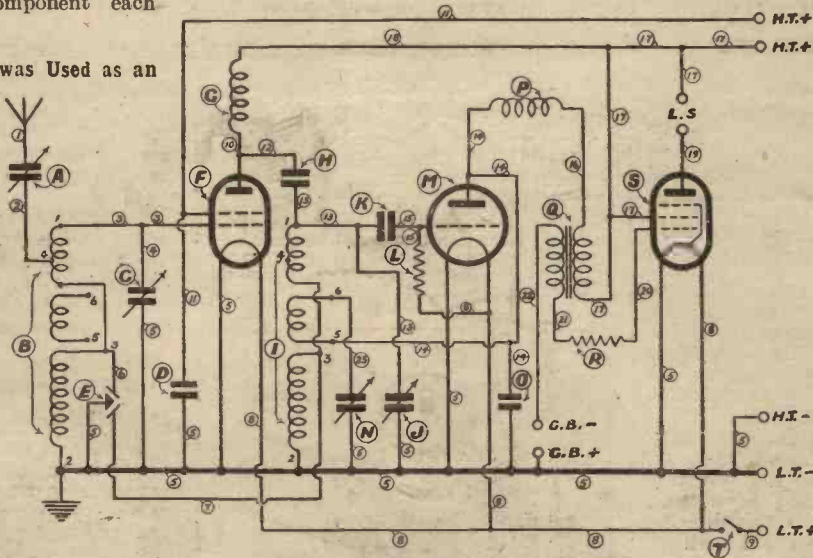

Fig. 1.—Three-valve circuit.
WHEN you look at a circuit diagram such as the one in Fig. 1 on this page, does it convey anything to you, or is it so much Greek? Do you know that every line in it refers to some particular part of a wireless set?
It is for those readers who are hazy on the point that I have had the two diagrams shown here specially prepared. As you see, Fig. 1 is a conventional circuit diagram with certain letters and numbers added. Fig. 2, on the other hand, is a perspective drawing showing how a receiver following the circuit of Fig. 1 would be made up. The letters and numbers appearing on the circuit diagram are repeated on the receiver, and show clearly to what component each symbol refers.
was the Editor who suggested the use of a perspective drawing of a typical receiver as providing the next best thing. This idea I worked out fully with the results shown in Figs. 1 and 2. The circuit used is the popular three-valve arrangement, consisting of a screen-grid valve, a detector valve, and a pentode-amplifier valve, while the lay-out is conventional in every respect. Of course, I realize that there are other circuits than this, and also that there are a number of components to be met with in modern receivers which are not represented here. This is unavoidable, but I think you will find that at least one type (in some cases there are more than one) of each of the more important components is included, and
Look at the top left-hand corner of the circuit diagram (Fig. 1). There you will see a sign like a crow's foot. This is the universally accepted symbol for the aerial. The aerial is joined to the aerial terminal or binding screw on the bottom right-hand corner of the set, as shown in Fig. 2.
From the crow's foot on Fig. 1 is a line marked (1), leading to a symbol consisting of two thick lines with an arrow through them marked (A). If you look for the same signs on Fig. 2 you will see that (1) refers to the wire from the aerial terminal to a little oblong affair with a knob on it, and that (A) refers to the oblong thing itself. If you don't immediately recognize this latter as what is known as a pre-set condenser, you will be able to find its name by referring to the key published with this article.
Why this is shown in Fig. 1 as three separate "springs" is because it contains three
Perhaps I should explain that the small numbers 1, 2, 3, 4, 5 and 6 round the base of each tuning coil, and shown on Fig. 1 *not in circles*, are those used by the manufacturers to mark the terminals of the coils, and have no connection with my system of numbering the various connecting wires.